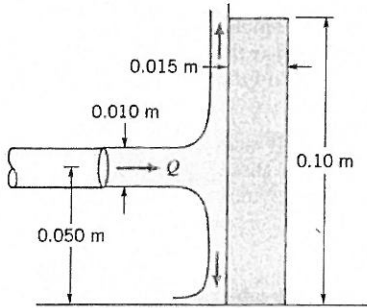

Figure P5.36
5.36 A 10-mm-diameter jet of water is deflected by a homogeneous rectangular block (15 mm by 200 mm by 100 mm) that weighs 6 N as shown in Video V5.6 and Fig. P5.36. Determine the minimum volume flowrate needed to tip the block.